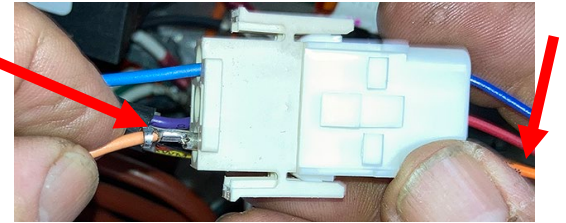

Figure 31
- m. Insert the orange molex wire from the harness from step e into the 3-pin connector directly across the existing orange wire (see Figure 31). Gently pull on the connector to ensure it is locked into place.